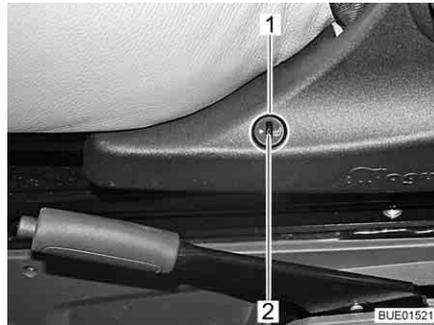

Fig. 24 Seat heater switch
- Press the lower half of the switch (Fig. 24,1) on the left side of the seat console.
- To lower the heat output, turn the adjustment wheel (Fig. 24,2) towards "0".
- To increase the heat output, turn the adjustment wheel (Fig. 24,2) towards "5".
- Press the upper half of the switch (Fig. 24,1) on the left side of the seat console.